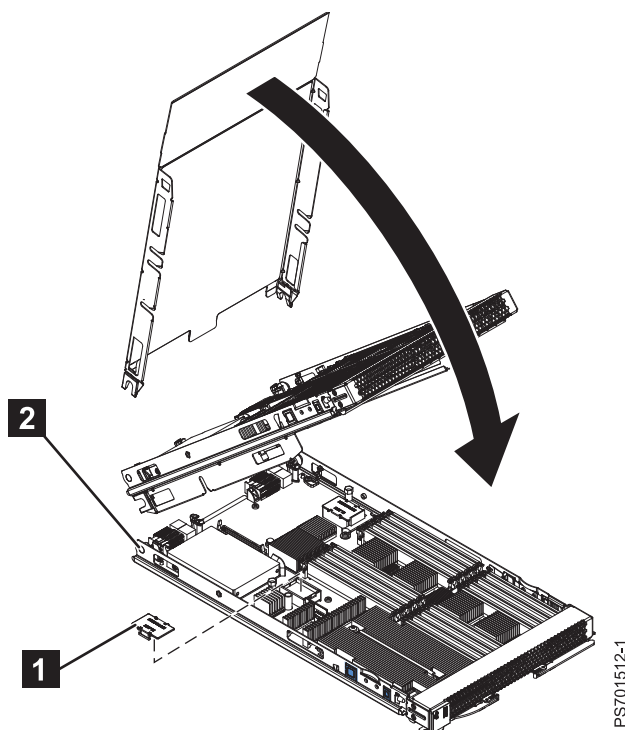

Figure 17. Installing the expansion unit
5. Remove the expansion connector cover, as shown by **1** in Figure 17 on page 254.